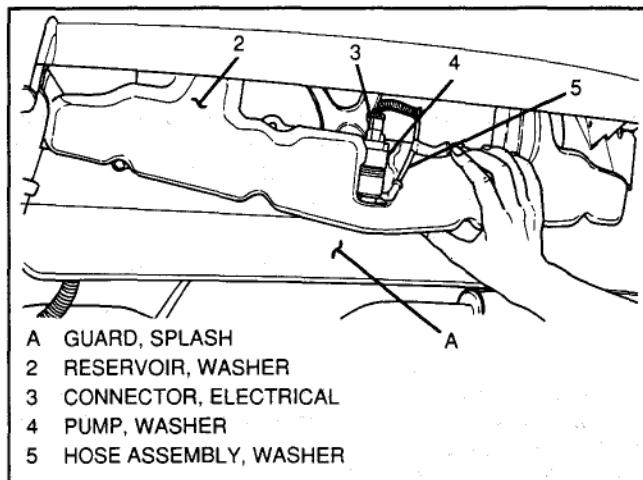

Figure 8 – Washer Reservoir Removal
1. Washer pump (4, Figure 8) in washer reservoir (2).